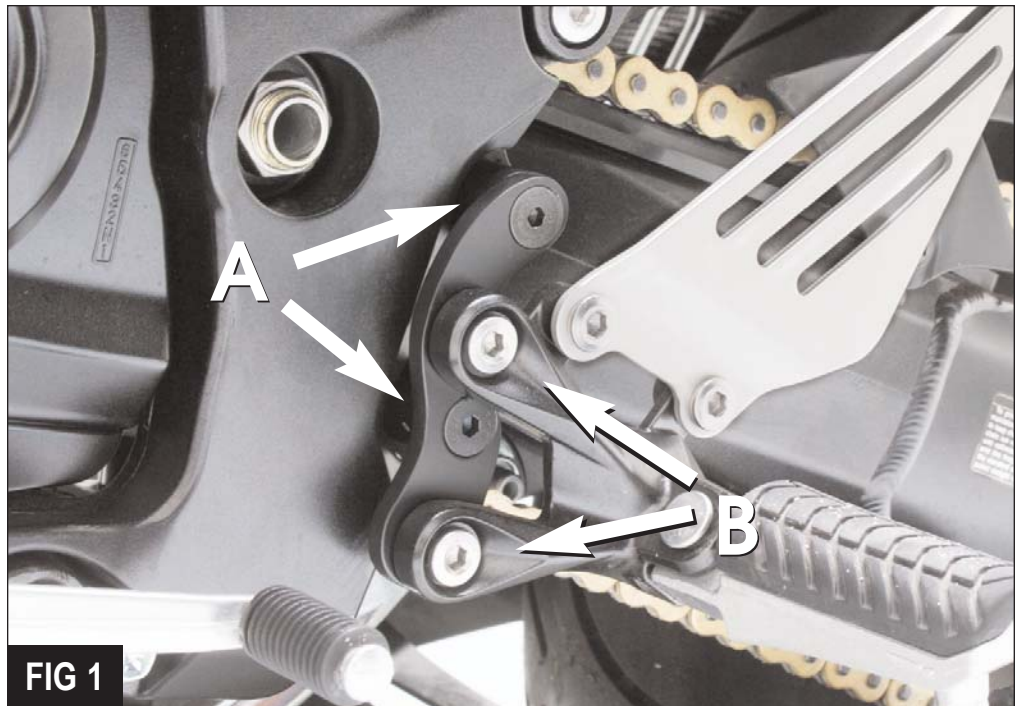

FIG 1
2. On the left side, remove the two bolts holding the peg hanger to the chassis. Install the Corbin bracket as shown with a spacer between the bracket and chassis at location "A" in Figure 1.
4. Secure the peg hanger to the Corbin bracket using the stock bolts at location "B", Figure 1. Tighten to 12 ft lbs and use Loctite!